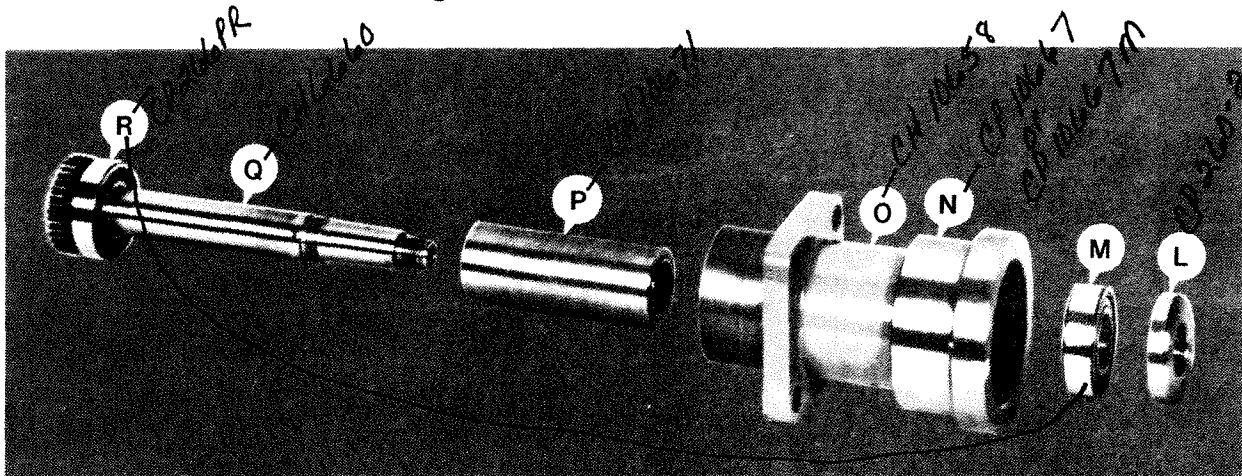

Figure 1.35 - Carriage Handwheel Components
5. Remove bearing "M", spacer "P", and shaft "Q" from housing "O", Figure 1.35. Bearing "R" is pressed onto shaft "Q".
2. Replace bearing "M", spacer "P", and shaft "Q" in housing "O", Figure 1.35.